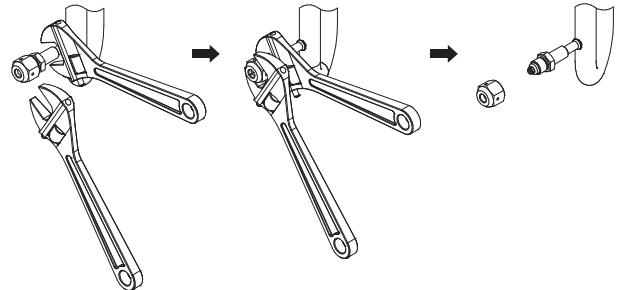

Figure 2
3. Remove the flare cap and flare nut from the gauge port-check valve (Figure 2).